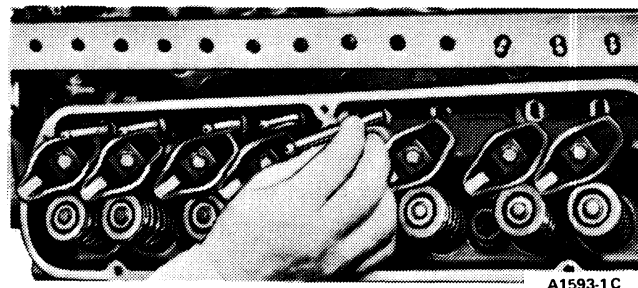

FIG. 22 Removing Valve Push Rods
5. Loosen the rocker arm fulcrum bolts so that the rocker arms can be rotated to the side. Remove the push rods in sequence (Fig. 22) so that they may be installed in their original positions.